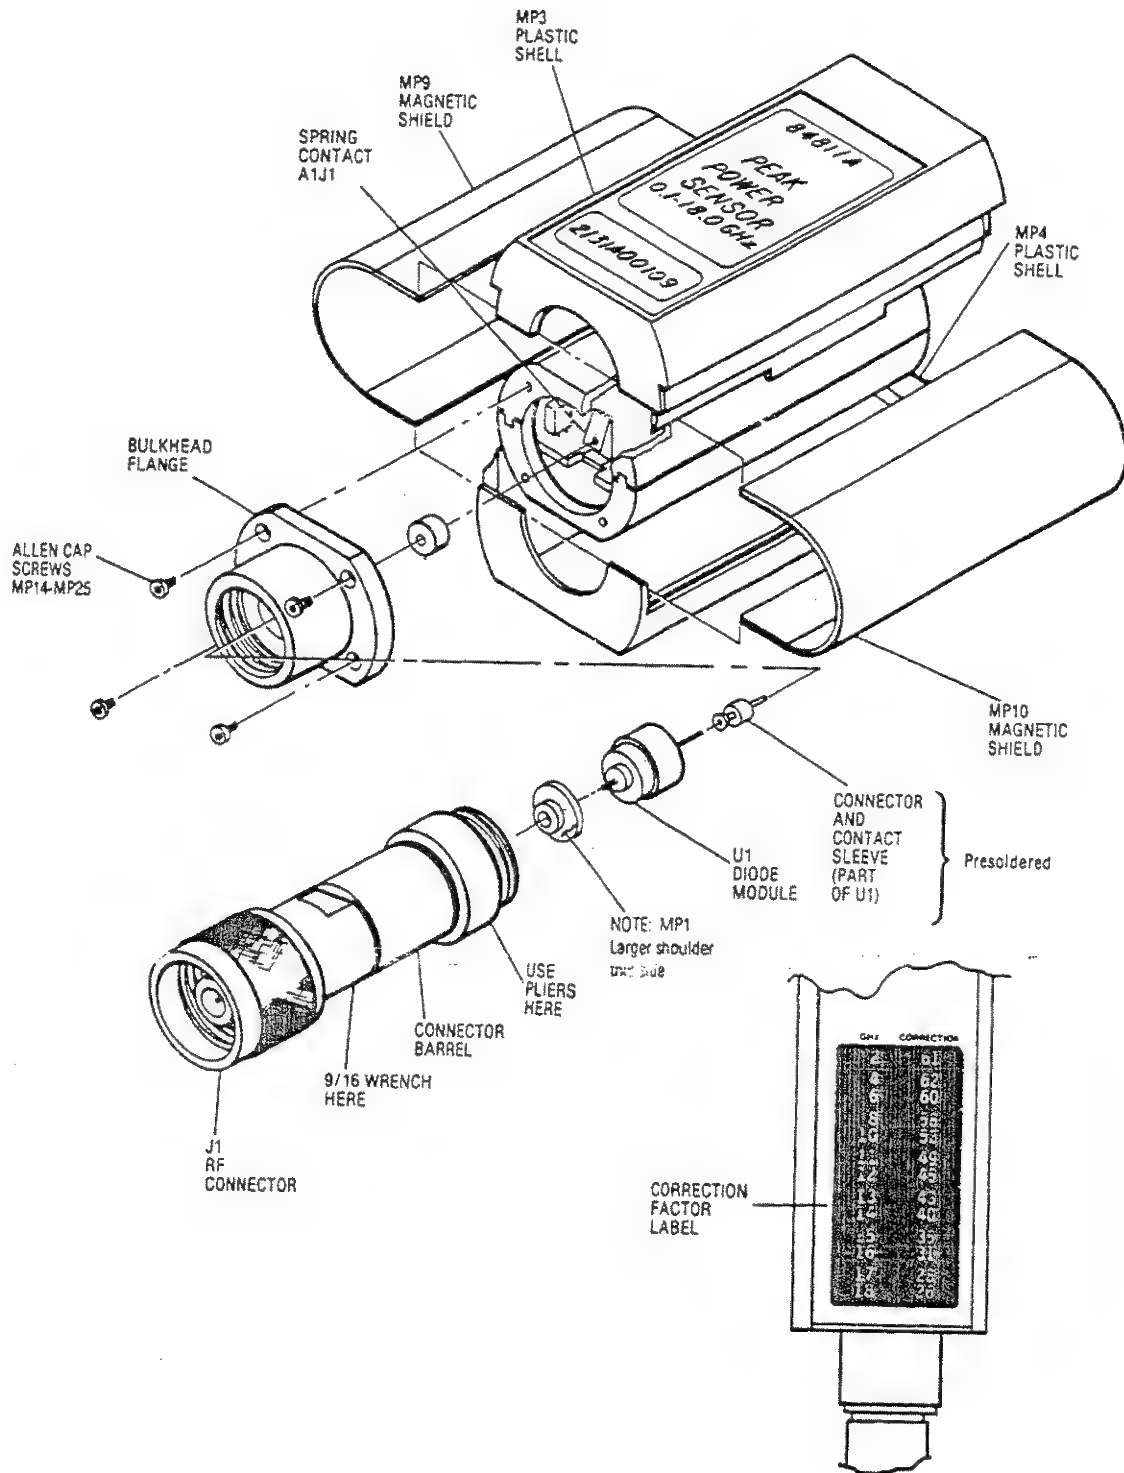

Figure 3. Illustrated Parts Breakdown
Table 3 is a list of replaceable parts. Figure 3 is the illustrated parts breakdown (IPB) that identifies the major assemblies and chassis parts. The mounting locations of the components on the A1 Input Amplifier Assembly are shown in Figure 4. To order a part, quote the Hewlett-Packard part number and Check Digit (CD), specify the quantity required, and address the order to the nearest Hewlett-Packard office (see NOTE below). To order
1. Insert the blade of a small screwdriver between the two piece plastic shell at the rear of the Peak Power Sensor. Gently pry the two pieces apart. Pry the other side of the shell apart and remove the cover sections. (see Figure 3.)
4. Apply -1.27 volts to the spring contact (see Figure 3).